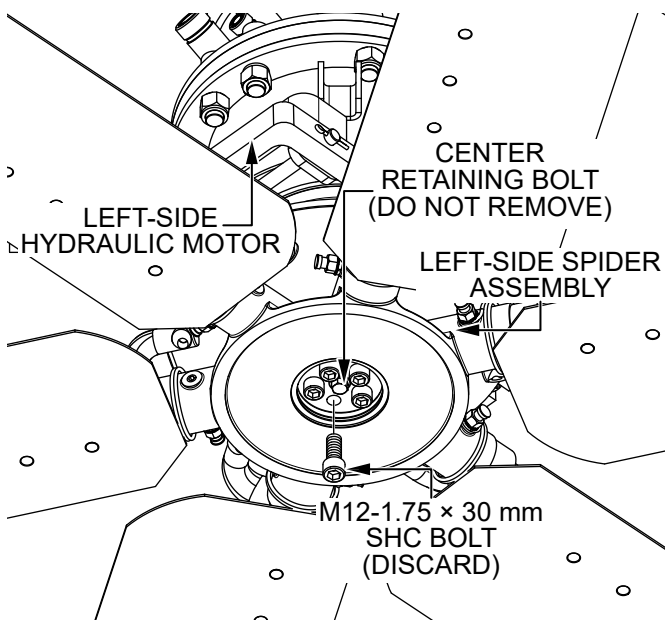

**Figure 5. Remove Left-Side Spider Hub Cap Plug**
1. Remove the left-side spider hub cap plug (Figure 5) and set it aside.